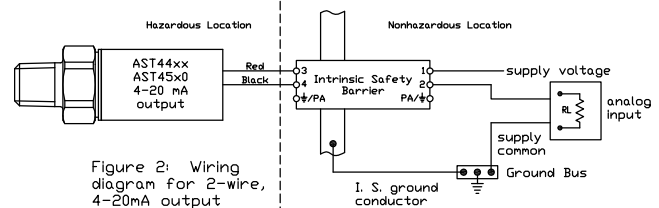

Figure 2: Wiring diagram for 2-wire, 4-20mA output
- For installation in accordance with Fig 2, barrier must be a CSA Certified, Single Channel grounded Shunt-Diode Zener Barrier or a Single Channel Isolating Barrier.